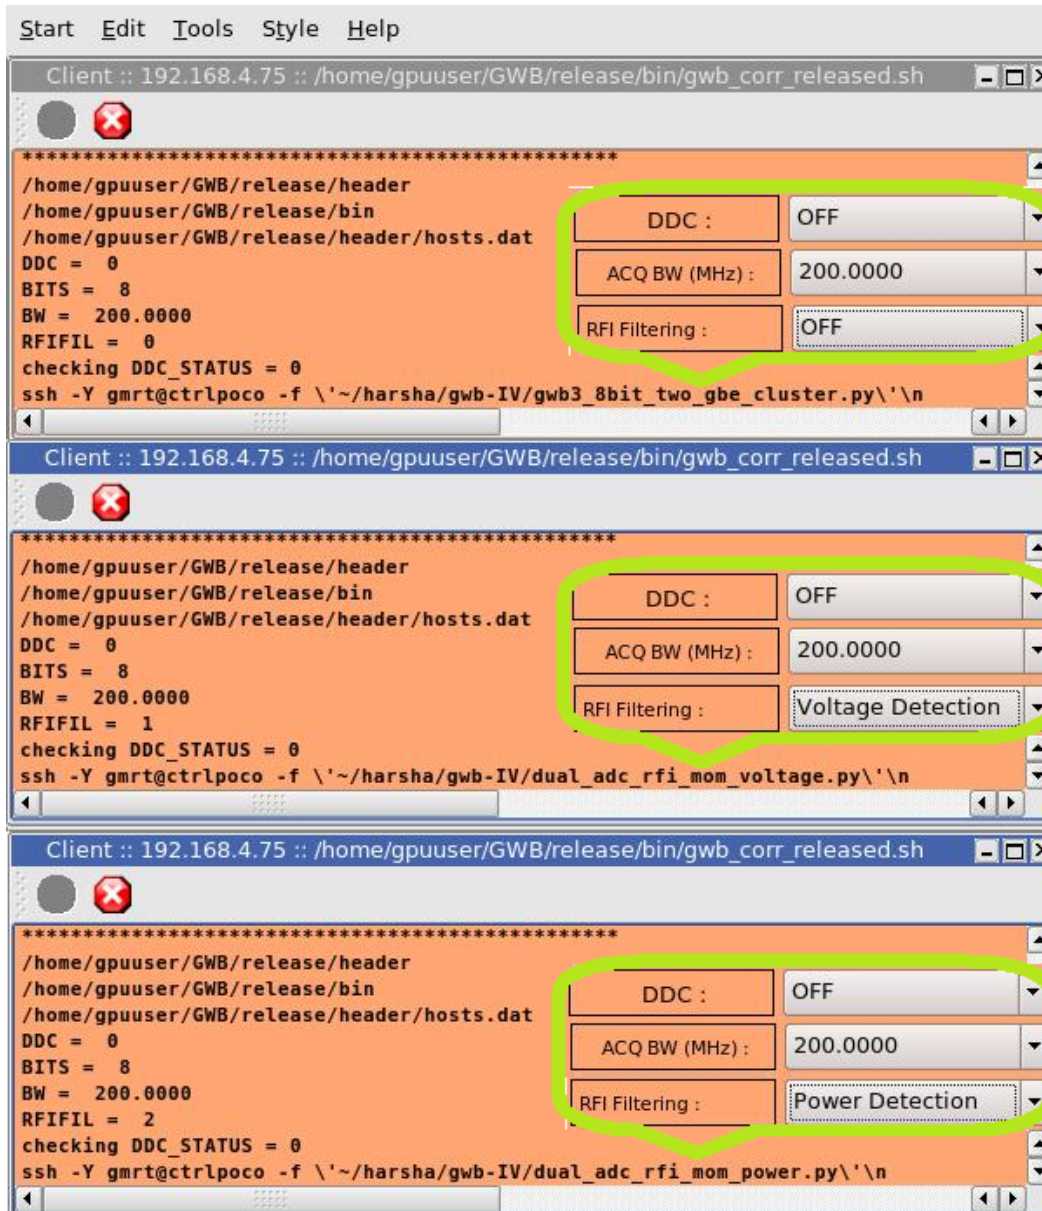

Fig. 3
1. In case of running **GWB-IV without RFI Filtering** RFIFIL is 0 and the default python script (`gwb3_8bit_two_gbe_cluster.py`) is running for 200MHz Bandwidth (is highlighted by light green color rectangle in figure 3)
2. In case of running **GWB-IV with RFI Filtering (Voltage Detection)** RFIFIL is 1 and the python script (`dual_adc_rfi_mom_volage.py`) is running (is highlighted by light green color rectangle in figure 3)
3. In case of running **GWB-IV with RFI Filtering (Power Detection)**, RFIFIL is 2 and the python script (`dual_adc_rfi_mom_power.py`) is running (is highlighted by light green color rectangle in figure 3)